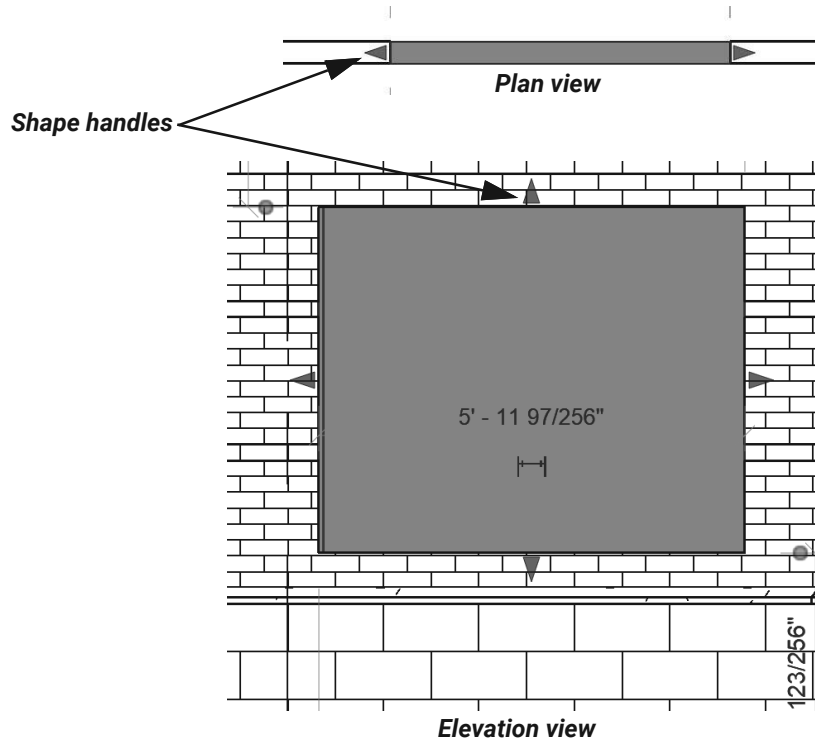

Figure 7–38
- You can use temporary dimensions to size the opening while in the command and both temporary dimensions and shape handles to modify the opening when it is selected, as shown in Figure 7–38.